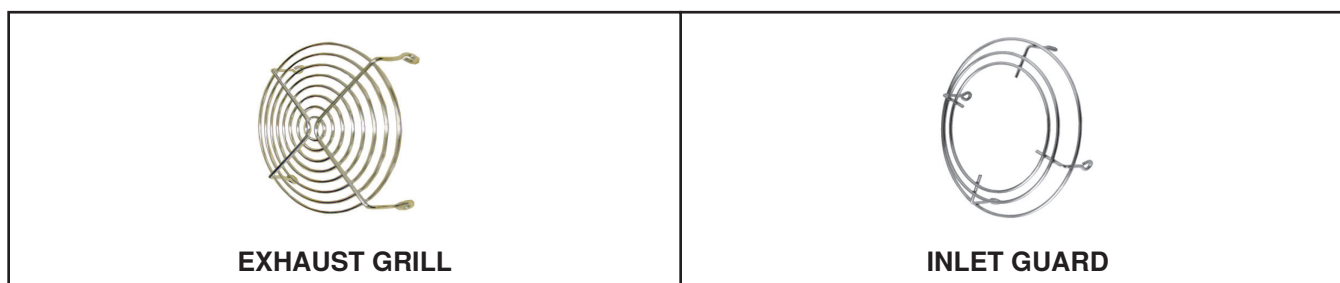

Figure 13. Option CC6 Components
| 211791                                                                           | 211792                                 | Exhaust grill (see <a href="#">Figure 13</a> )                                                                   | 1        |
| 151755                                                                           | 124940                                 | Inlet guard (see <a href="#">Figure 13</a> )                                                                     | 1        |
**NOTE: Before installing the exhaust grill, ensure that its mounting points are bent 90 degrees as shown in Figure 13 to fit around the vent pipe.**